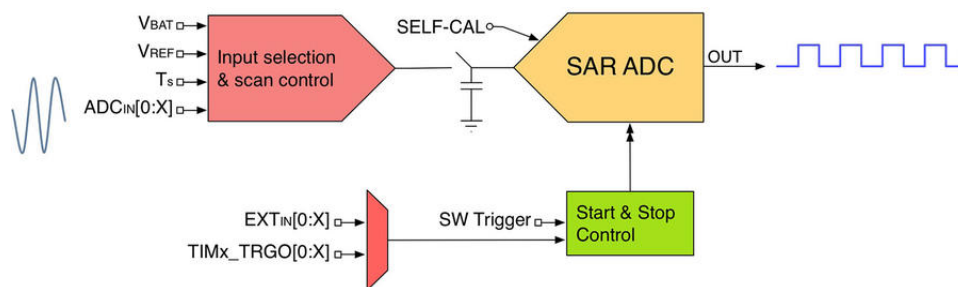
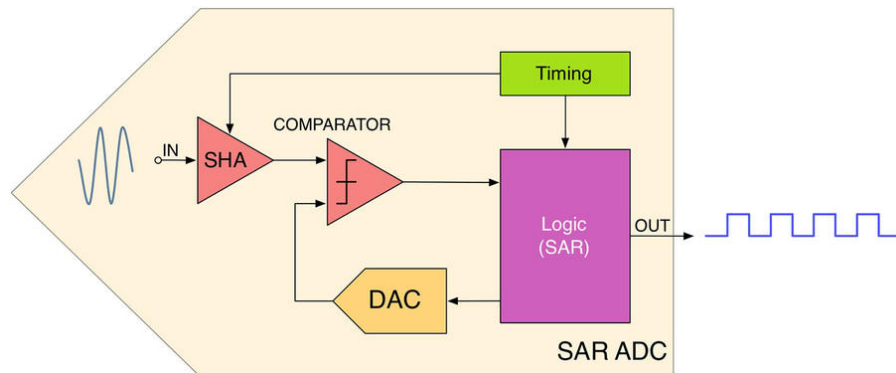
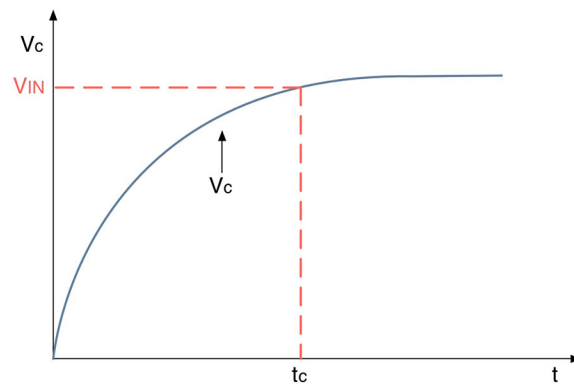

Figure 1: The simplified structure of an ADC
Figure 2: The internal structure of a SAR ADC
Figure 4: The effect of the ADC resistance on the analog signal source
Figure 1 schematizes the structure of the ADC². An *input selection and scan control unit* performs the selection of the input source to the ADC. Depending on the conversion mode (single, scan or
²Figure 1 is a really simplified representation of the ADC. Since the ADC implementation can differ a lot among the several STM32 families, here we are going to consider a simplified view that clearly describes how the ADC unit is designed.
Figure 1 also shows another important part of the ADC: the *start and stop control* unit. Its role is to control the A/D conversion process, and it can be triggered by software or by a variable number of input sources. Moreover, it is internally connected to the TRGO line of some timers so that time-driven conversions can be automatically performed in DMA mode. We will analyze this important mode of the ADC peripheral later.
Figure 2 shows the main blocks forming the SAR ADC unit shown in **Figure 1**. The input signal goes through the SHA unit. As you can see in **Figure 1**, a switch and a capacitor are in series with the ADC input. That part represents the *Sample-and-Hold* (SHA) unit shown in **Figure 2**, which is a feature available in all ADCs. This unit plays the important role to keep the input signal constant during the conversion cycle. Thanks to an internal timing unit, which is regulated by a configurable clock as we will see later, the SAR constantly connects/disconnects the input source by closing/opening the “switch” in **Figure 1**. To keep the voltage level of the input constant, the SHA is implemented with a network of capacitors: this ensure that source signal is kept at a certain level during the A/D conversion, which is a procedure that requires a given amount of time, depending on the conversion frequency chosen.
The charging of the internal capacitor network (that we indicate with C_{ADC}) is controlled by the switch in **Figure 1** having a resistance equal to R_{ADC} . With the addition of source resistance (that is, $R_{TOT} = R_{ADC} + R_{IN}$), the time required to fully charge the hold capacitor increases. **Figure 4** shows the analog signal source resistance effect. The effective charging of C_{ADC} is governed by R_{TOT} , so the charging time constant becomes $t_C = (R_{ADC} + R_{IN}) \times C_{ADC}$. If the sampling time is less than the time required to fully charge the C_{ADC} through R_{TOT} ($t_S < t_C$), the digital value converted by the ADC is less than the actual value. In general, it is necessary to wait a multiple of t_C to achieve a reasonable accuracy.
- `ClockPrescaler`: defines the speed of the clock (ADCCLK) for the analog circuitry part of ADC. In the previous paragraph we have seen that the ADC has an internal timing unit that controls the switching frequency of the input switch (see **Figure 2**). The ADCCLK establishes the speed of this timing unit and it impacts on the number of samples per seconds, because it defines the amount of time used by each conversion cycle. This clock is generated from the peripheral clock divided by a programmable prescaler that allows the ADC to work at $f_{PCLK}/2, /4, /6$ or $/8$ (refer to the datasheets of the specific MCU for the maximum values of ADCCLK and its prescaler). In some STM32 MCUs the ADCCLK can also be derived from the HSI oscillator. The value of this field affects the ADCCLK speed of all ADCs implemented in the MCU.